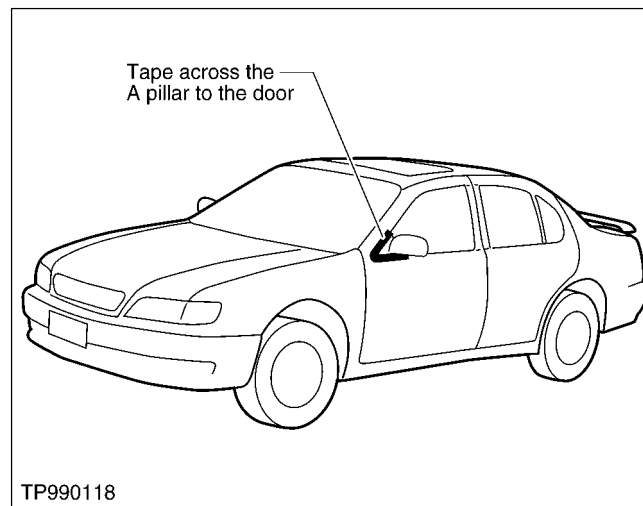

Figure 11. Lower Edge of Window
2. Tape across the A pillar to the door (see Figure 11).